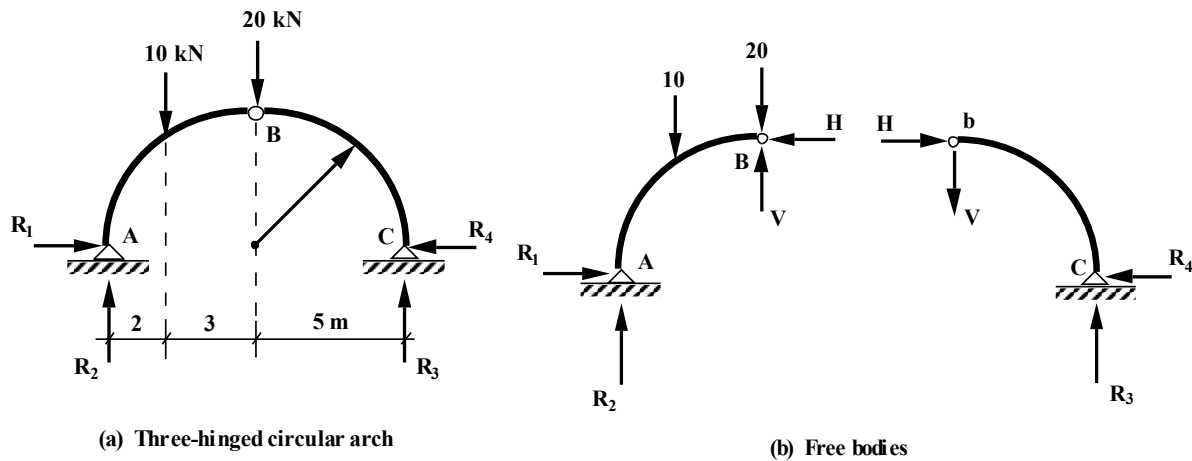

Fig. 3.23
Example 3.5 A three-hinged arch is shown in Fig. 3.23(a). Compute the reactions at supports A and C.
Step 1: Resolve the structure into two free bodies as shown in Fig. 3.23(b). The unknown internal forces are H and V .
Step 2: An inspection of the two free body diagrams indicates that there are four unknowns in each of them and none is solvable. This means that neither of these substructures should be analysed first. Now return to the original structure (Fig. 3.23(a)).